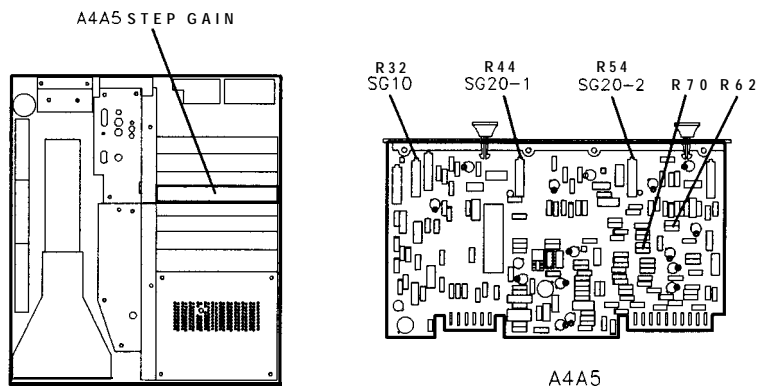

Figure 3-48. Location of 10 dB Gain Step Adjustments
- Adjust A4A5R32SG10 for MKR A level of .00 dB (CRT MKR A annotation is now in upper right corner of CRT display). See Figure 3-48 for location of adjustment.
24. Adjust A4A5R44 SG20-1 for MKR A level of .00 dB. See Figure 3-48 for location of adjustment.
26. Adjust A4A5R54 SG20-2 for MKR A level of .00 dB. See Figure 3-48 for location of adjustment.